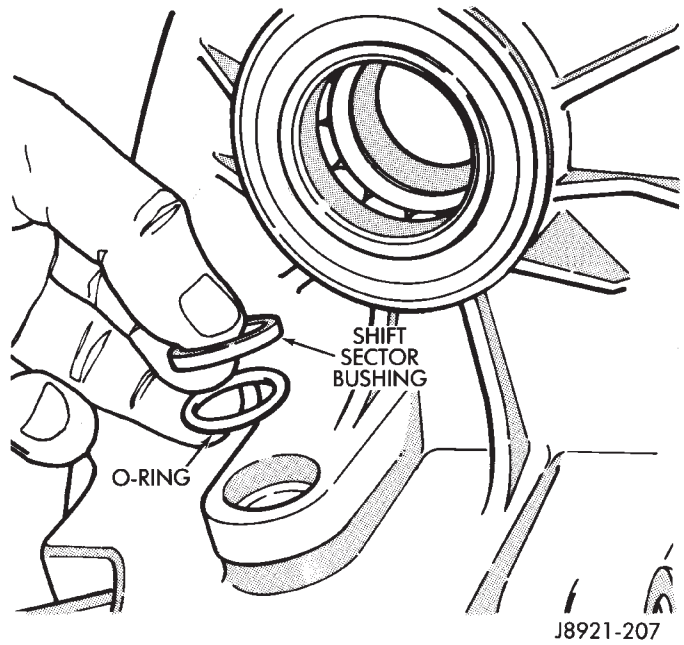

Fig. 37 Sector Bushing And O-Ring Removal
- (16) Remove shift sector bushing and O-ring (Fig. 37).